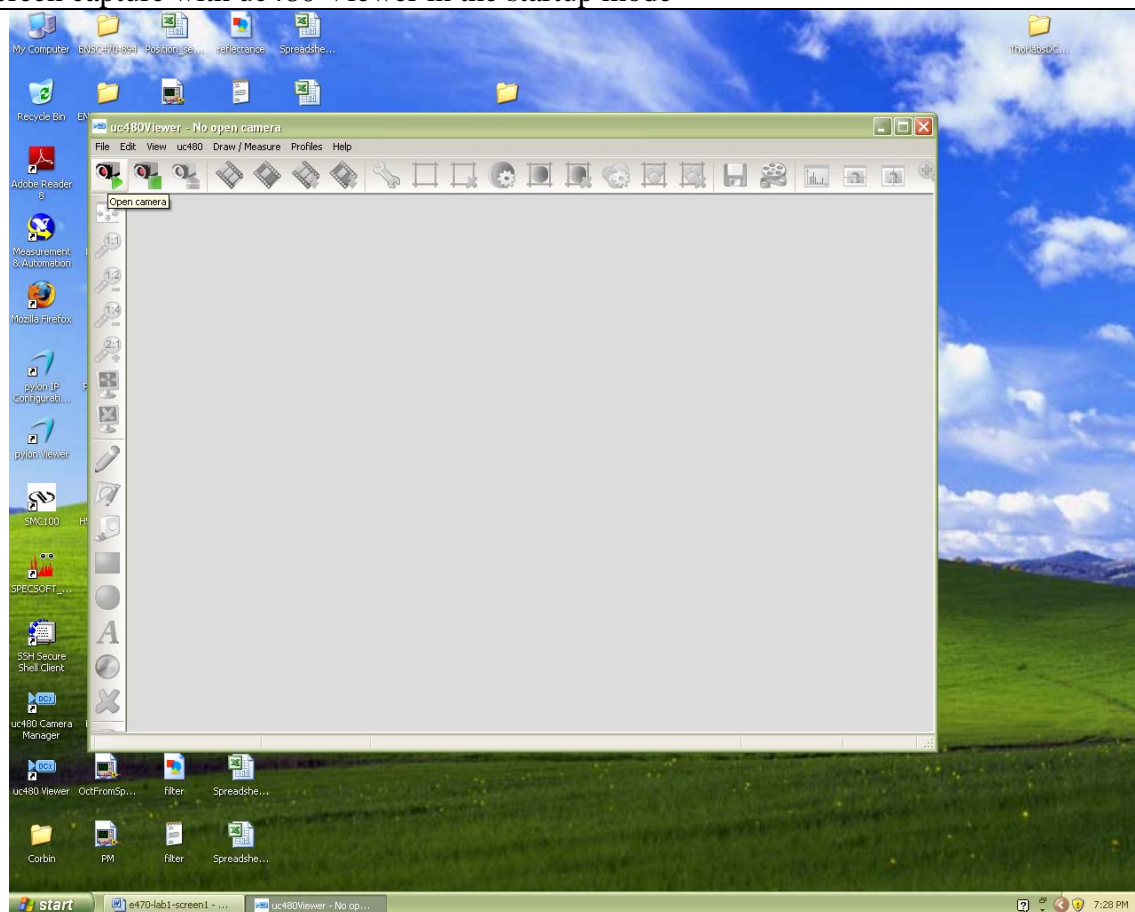

Figure 2: uc480 startup screen
3. The uc480 viewer window (see Fig 2) starts with a blank screen until you start the camera. On the icon row, at the left most icon click on the “open camera” icon to start the sensors. The UC480 viewer looks at the Thorlabs DCC1545M camera appears in white window on the right of the viewer.